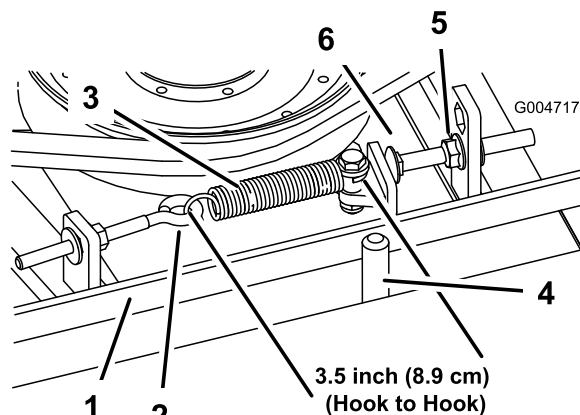

Figure 73
When properly tensioned, the inside measurement of the extension spring (hook to hook) should be approximately 8.3 to 9.5 cm (3-1/4 to 3-3/4 inches). Once the correct spring tension is attained, adjust the stop bolt (carriage bolt) until there is approximately 2 to 5 mm (0.065 to 0.185 inch) clearance between the head of the bolt and the idler arm (Figure 73).
**Note:** Ensure that the belt is positioned on the spring side of the belt guide (Figure 73).
2. Loosen the eye bolt allowing the removal of the extension spring (Figure 73).
3. Loosen the flange nut securing the stop bolt to the mounting tab and move the idler pulley away from the belt to release the belt tension (Figure 73).
9. Connect the extension spring (Figure 73) to the eye bolt and tension the belt as follows: